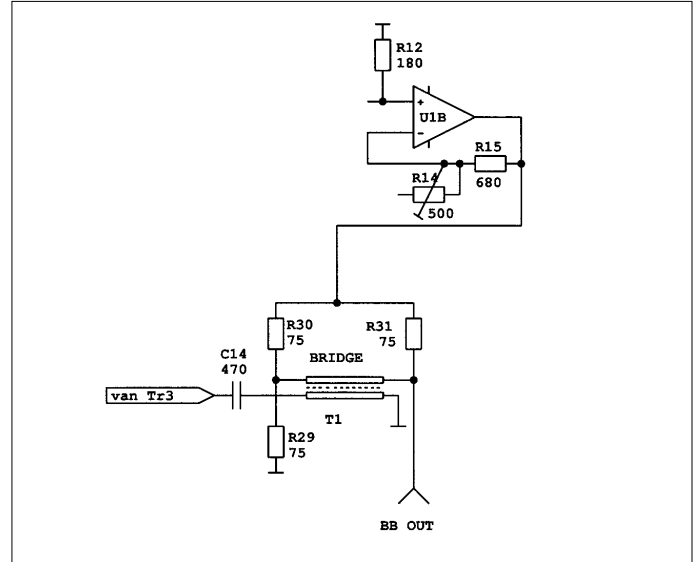

Fig.10
*Besides the original output stage figure 10 also show the modified version.*